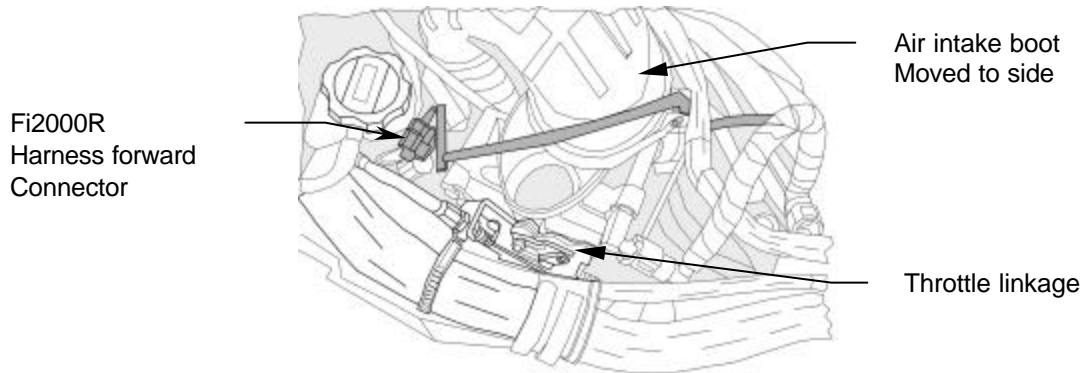

FIGURE 2
4. Push the air intake boot to the right to gain access to the front fuel injector. Release the black injector connector by squeezing the two side tabs inward and pulling it away at the same time, (Fig. 2.) Now connect the forward Fi2000R matching connector to the injector and then connect the original connector to the corresponding Fi2000R connector. Replace the air boot and tighten the clamp.